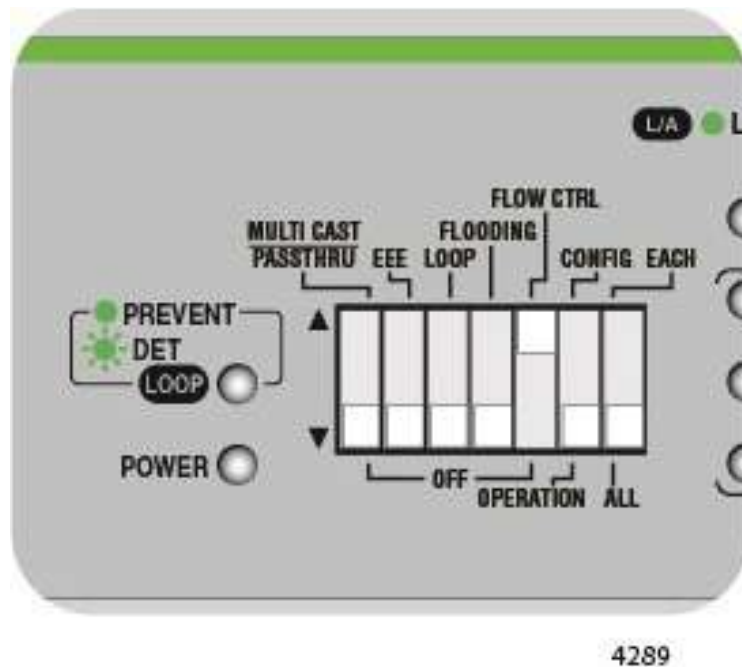

Figure 51. DIP Switch Settings for Enabling Flow Control
1. Set DIP switch # 5 to the UP position to enable this feature. See Figure 51.